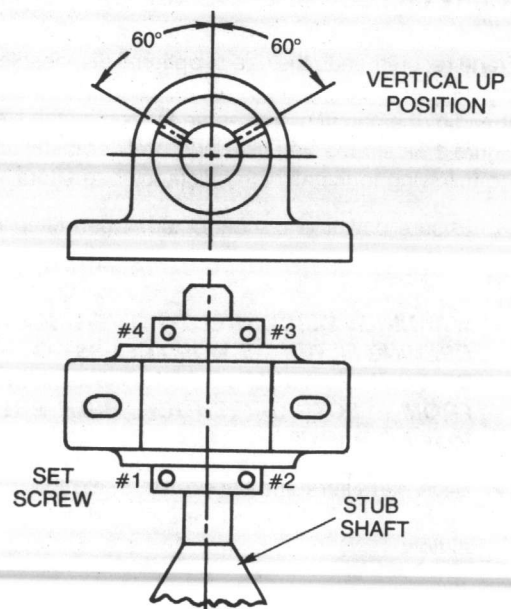

FIGURE 4 - Instruction Sketch for Pillow Block Bearing with Double Lock Setscrew
1. Rotate the shaft until the double lock bearing setscrews are in the vertically up position as shown in Figure 4.
2. Without V-Belt tension, snug (hand tight) all four setscrews of the double lock bearing in the numerical sequence as shown in Figure 4.
3. Torque each setscrew of the double lock bearing in the numerical sequence to 66 inch-pounds. See Figure 4.